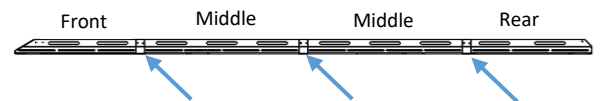

Figure 7: Side Bracket Locations
4. Separately, assemble the driver and passenger-side rails using the side rail brackets to combine the front, middle, and rear together using #10-32 x 3/8" bolts and washers (See Figure 7 & 8). This roof rack has 3 per side.